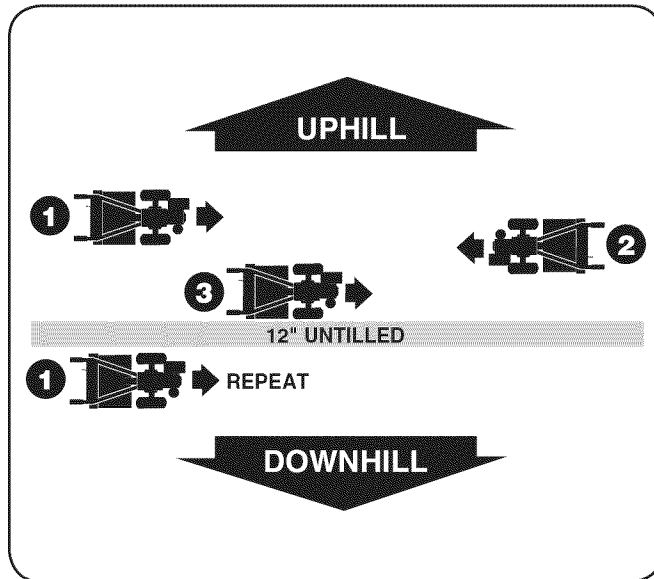

Figure 5-7
1. To create a terrace, start at the top of the slope and work down. Go back and forth across the first row as shown in Fig. 5-7.